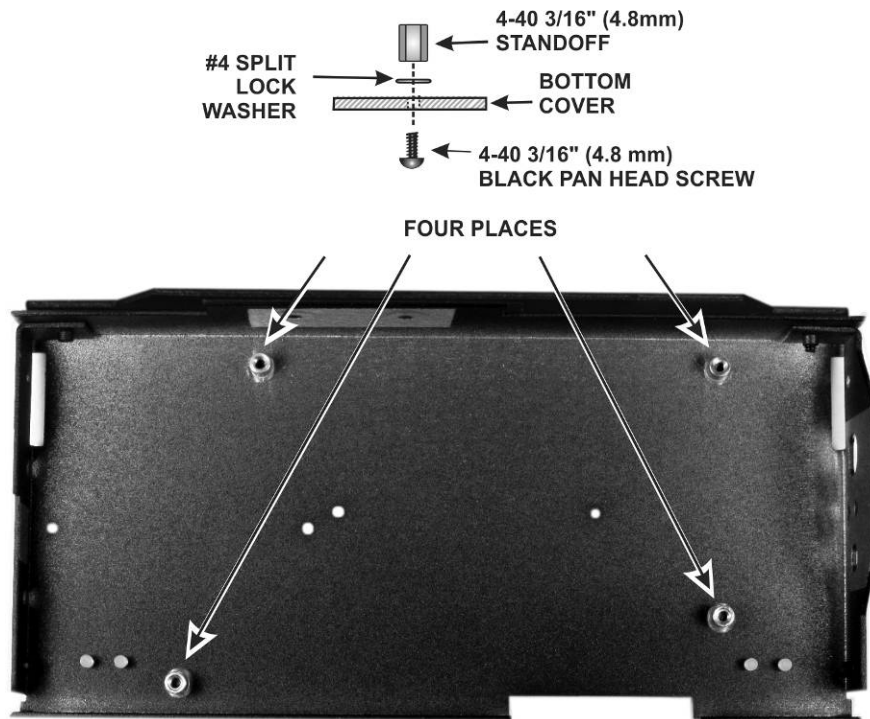

Figure 32. Installing 4-40 Standoffs in the Bottom Cover.
- Install the four #4 (larger) standoffs in the bottom cover as shown in Figure 32.